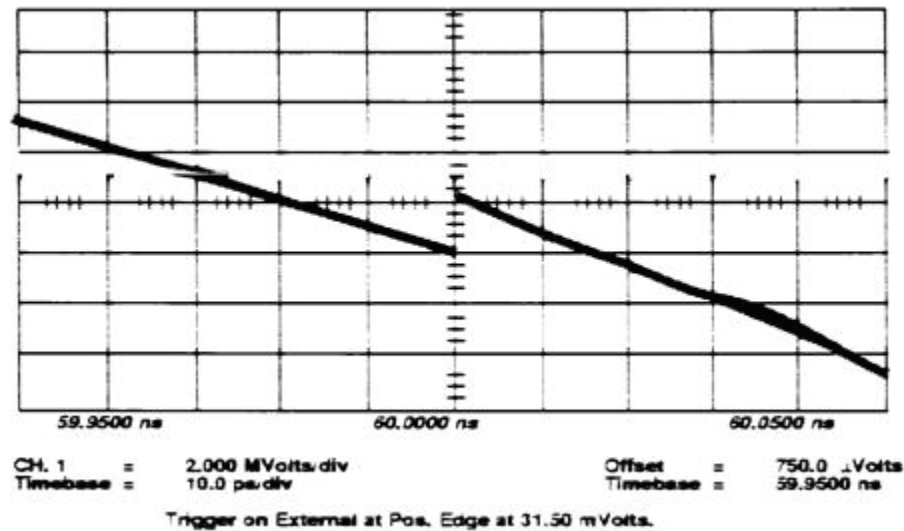

Figure 14. Expanded trace discontinuity.
h. If necessary, adjust the trigger level to center the trace discontinuity vertically on display (fig. 14).